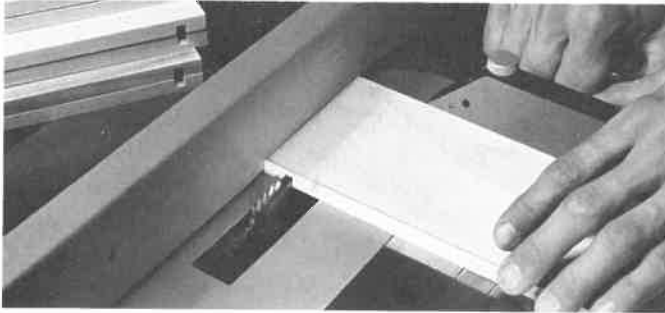

Fig. 22-6. Cutting dado in sides to hold drawer backs.
8. Cut the required joints for the drawer sides and backs, Fig. 22-6.